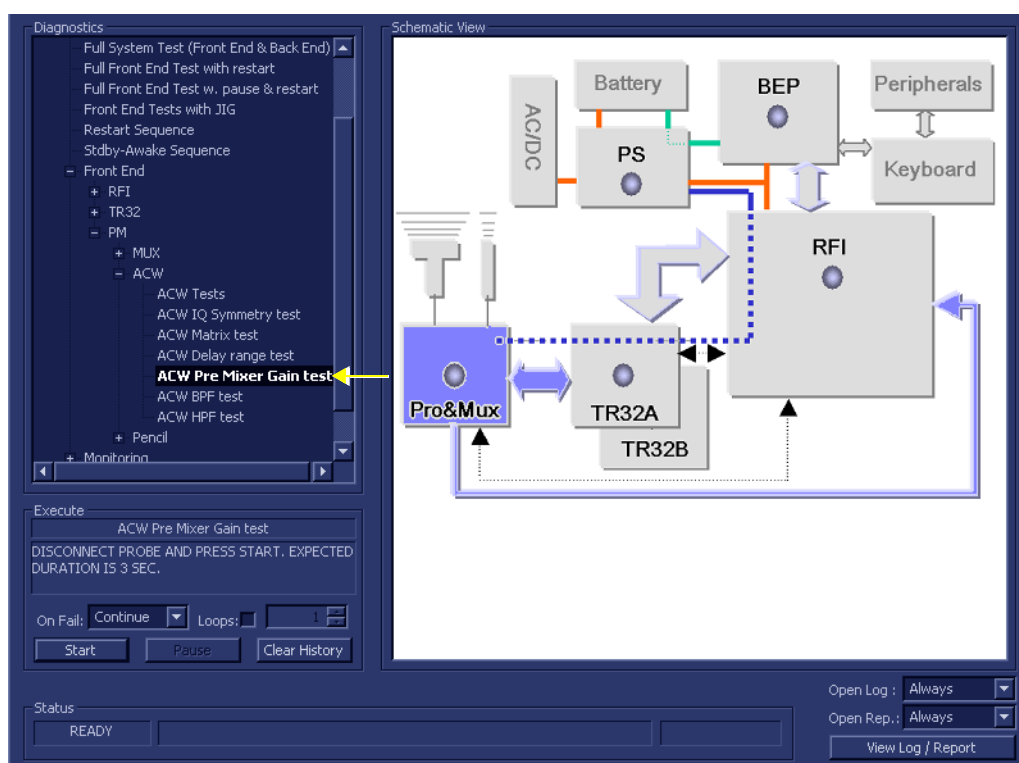

Figure 7-45 ACW Pre-Mixer Gain Test
- 1.) In the *Diagnostic Test* window, trackball to **ACW Pre-Mixer Gain Test** in the list of ACW tests available for selection from the Diagnostic Test Tree (see Figure 7-45 below) and press **Set**. The ACW Pre-Mixer Gain Test name is displayed under *Execute*; the relevant system components to be tested are highlighted light blue in the Schematic View (P&M), as shown below: